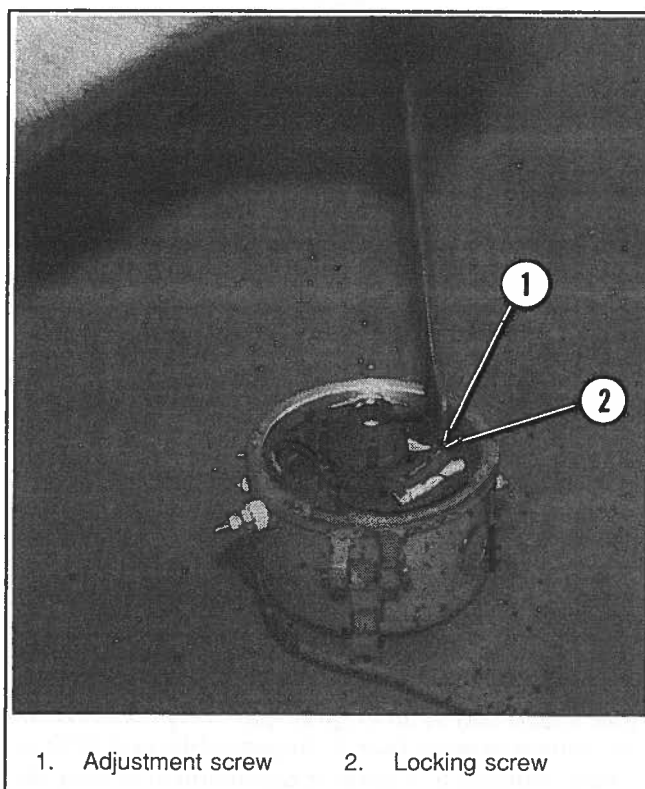

Figure 6-26. Adjusting Point Gap
3. Loosen the lockscrew and adjust the points to specifications (Figure 6-26).